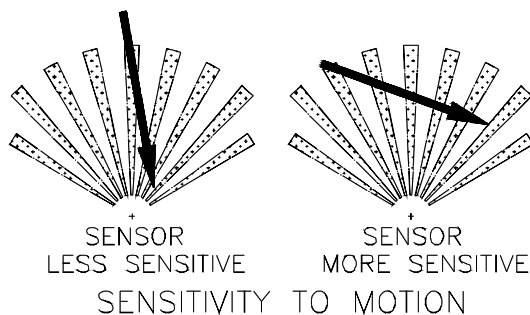

FIGURE 1b
3. Where possible, mount the detector so that the logical path of an intruder would cut across the fan pattern rather than directly towards the detector.(FIGURE 1b)